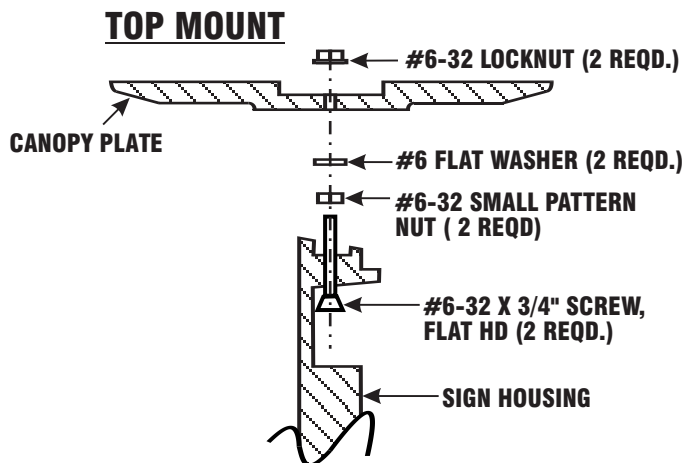

FIG 1
3. See Fig.1 and 2 below. Route LED connector through slot in top of housing and through canopy. Insert 6-32 X 3/4" flat head screws into housing and lock down two nuts firmly. Run flat washers on screws, position canopy, and firmly tighten two lock nuts as shown.